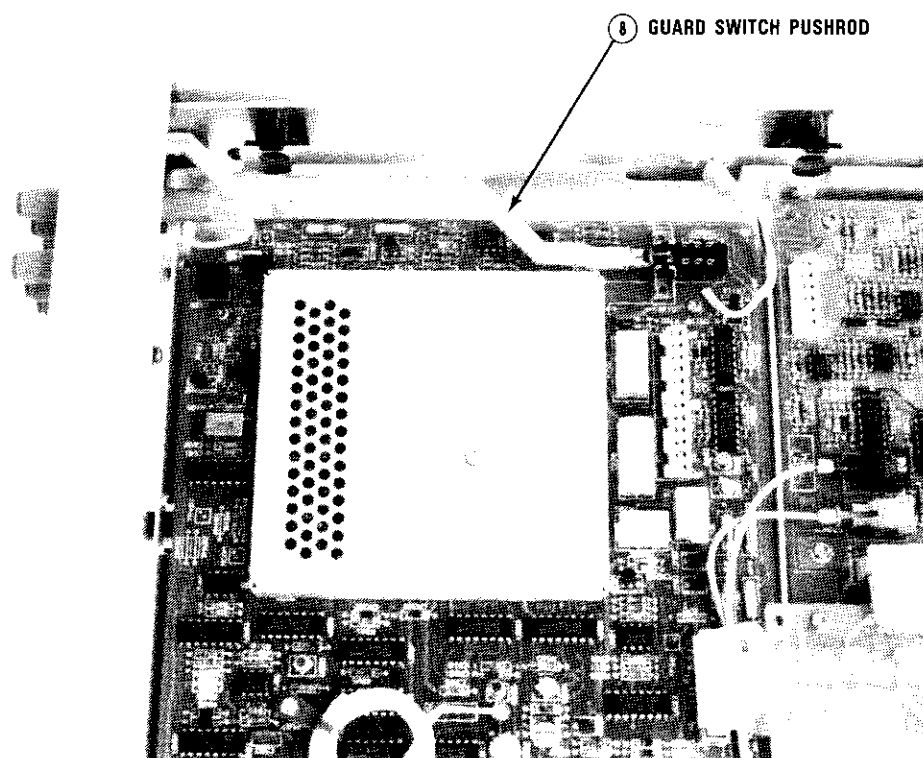

Figure C-6. Guard Switch And Pushrod Location
2. Refer to Figure C-6. Locate the pushrod for the Guard switch. Pull the pushrod off. You may need to pry the pushrod loose with a small flat blade screwdriver. Set the switch in the position it is to be used.